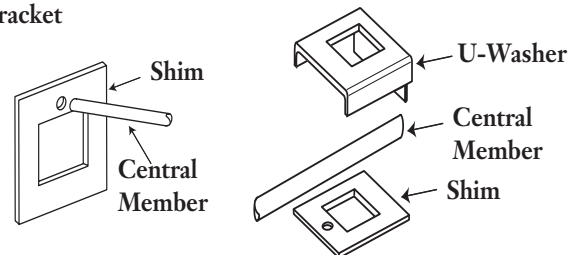

Figure 10
**NOTE:** *Smaller diameter central members require a shim to make sure they are adequately secured in the central member clamp. Use a central member clamp shim when necessary (Figure 10).*